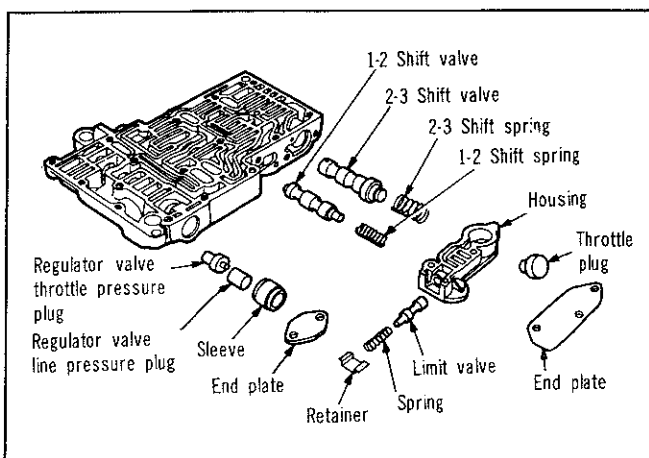

Fig. 41—Shift valves and pressure regulator valve plugs
(1) Remove the line pressure regulator valve end plate (Fig. 41) and slide out the regulator valve sleeve, line pressure plug, and throttle pressure plug.
#### Shift Valves and Regulator Valve Pressure Sensing Plugs (Fig. 41)